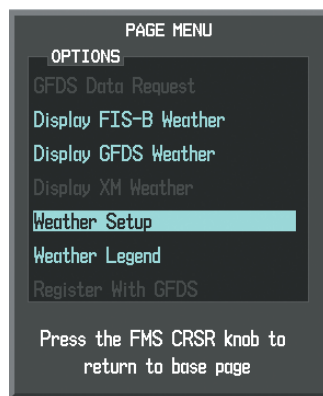

Figure 6-4 Weather Data Link Page Menu
- 1) Select the Weather Data Link (XM) Page.
- 3) With 'Weather Setup' highlighted, press the **ENT** Key (Figure 6-4).